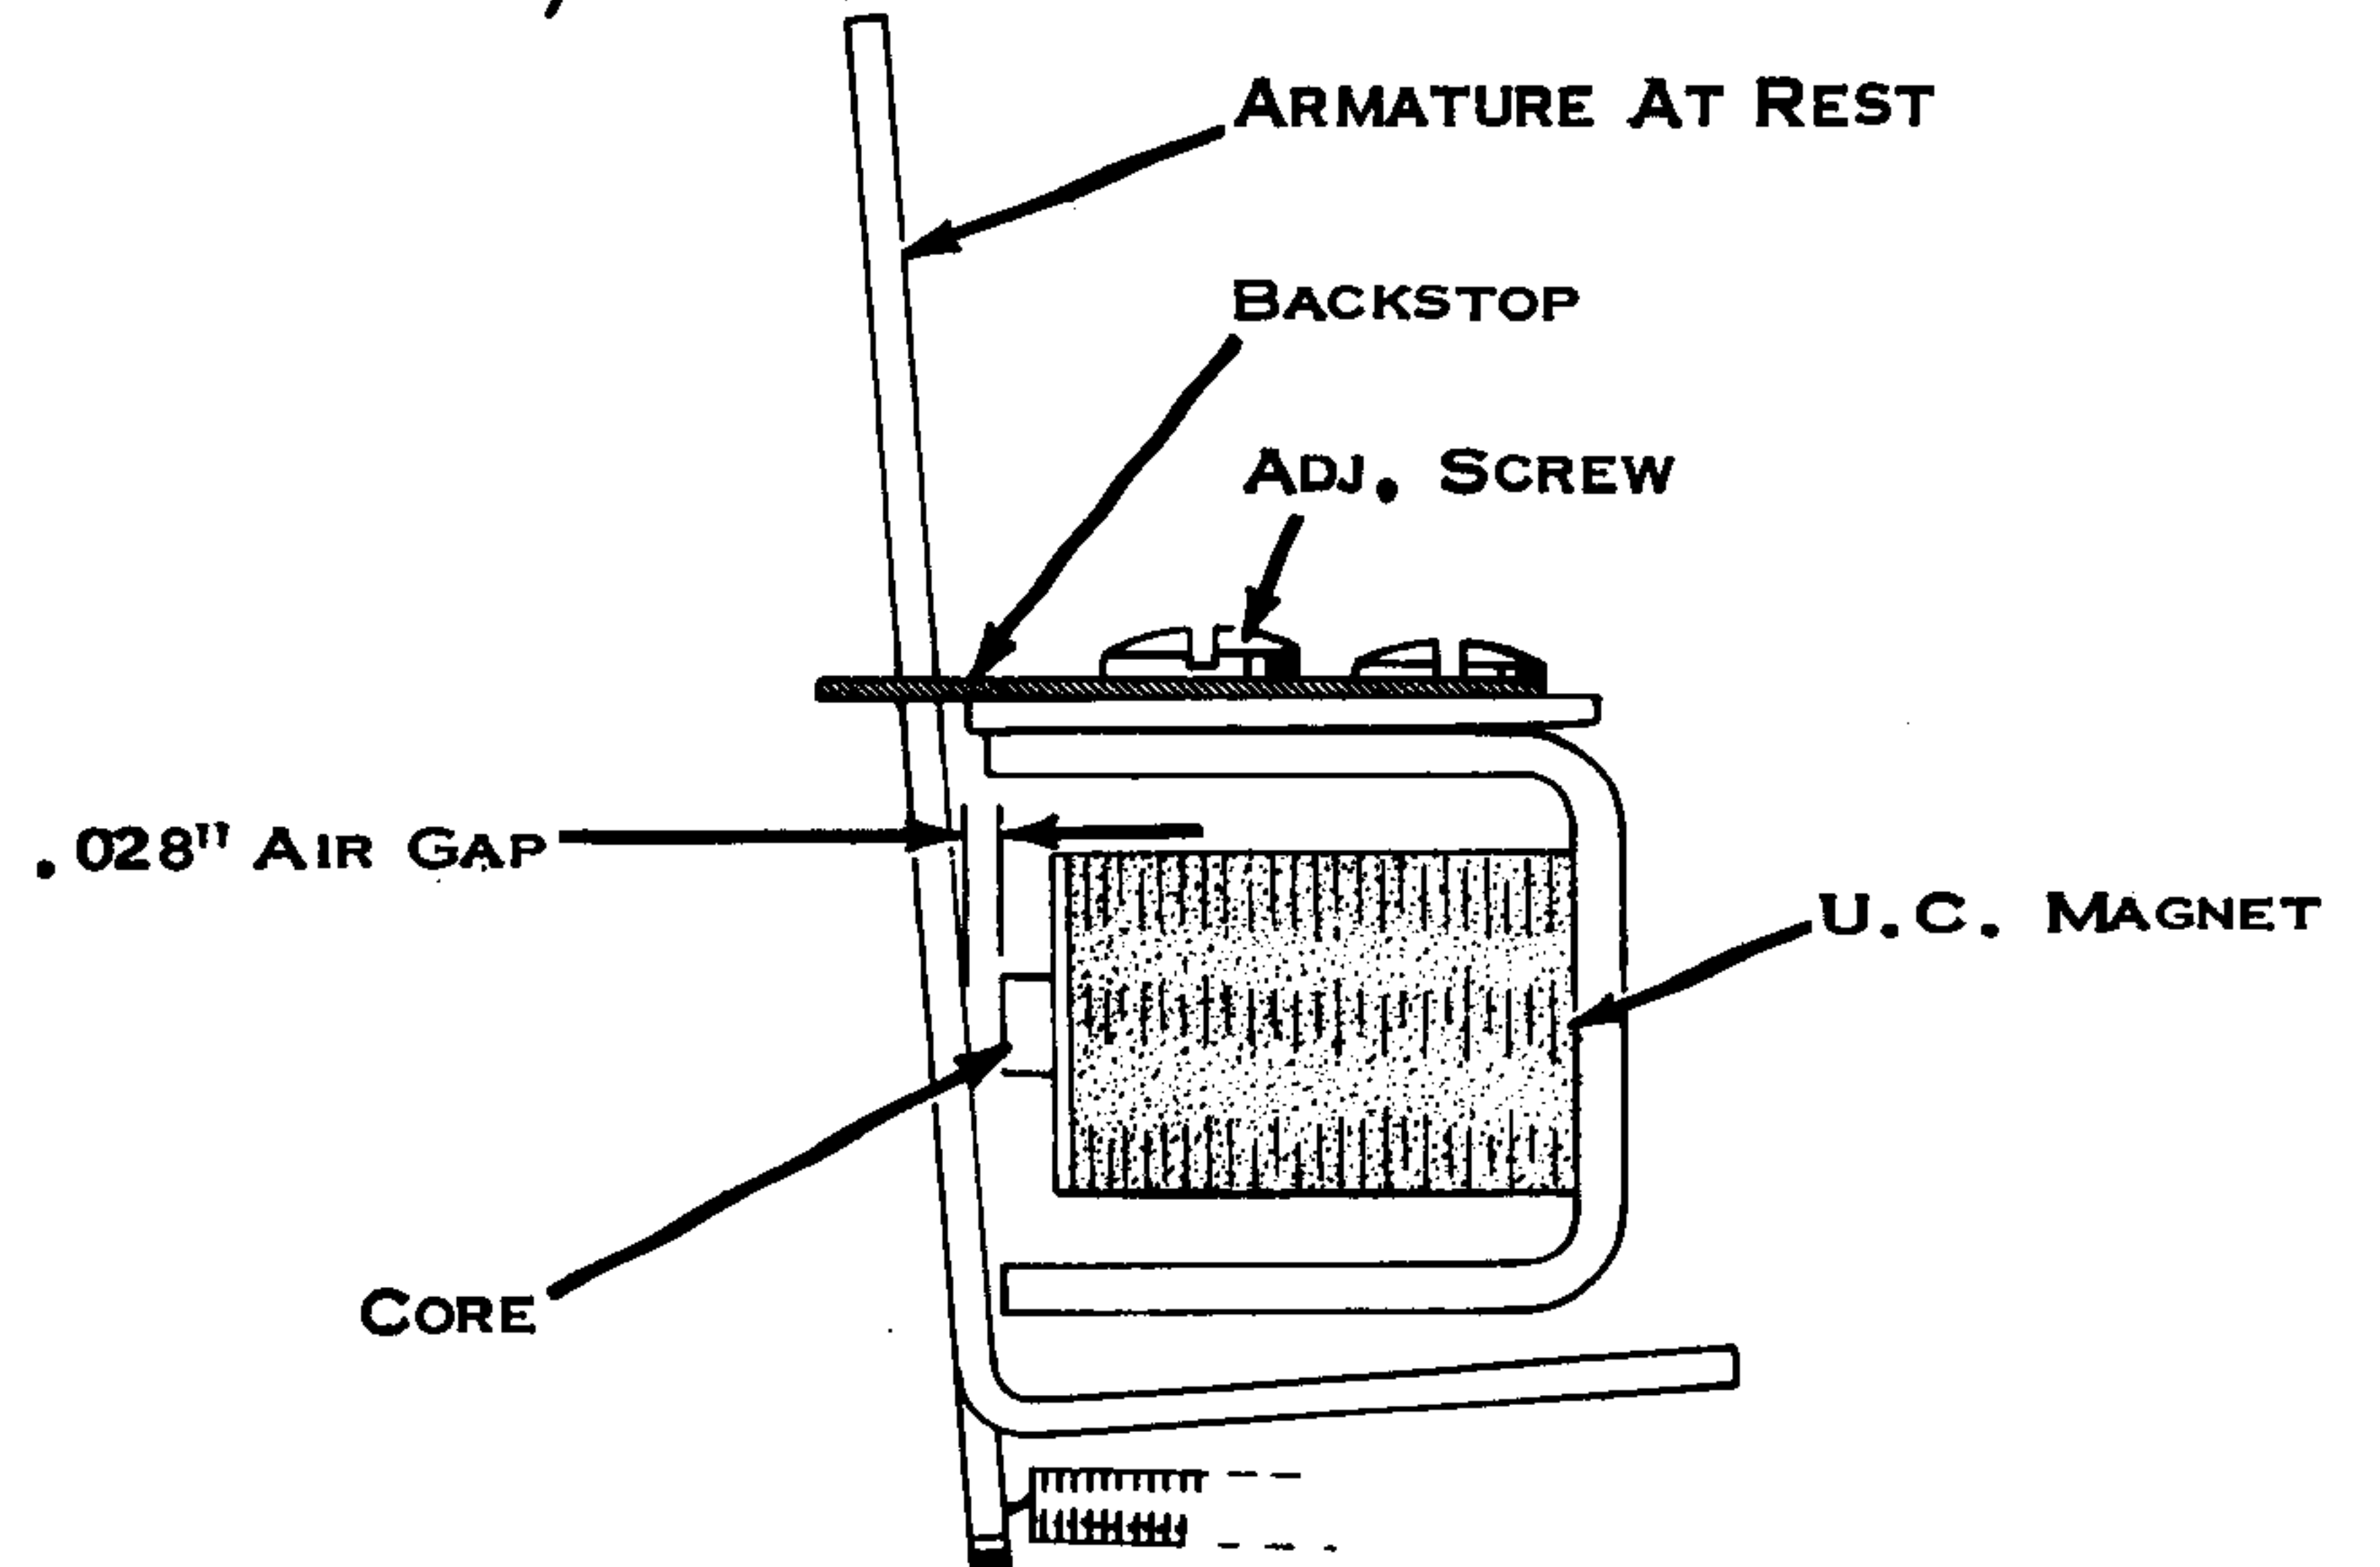

Figure 95. Armature Backstop, 11 Inch Machine
3. Armature Backstop, 11" Machine (Fig. 95) - Adjust the armature backstop (UC magnet - armature at rest) so that the armature clears the core by .028".